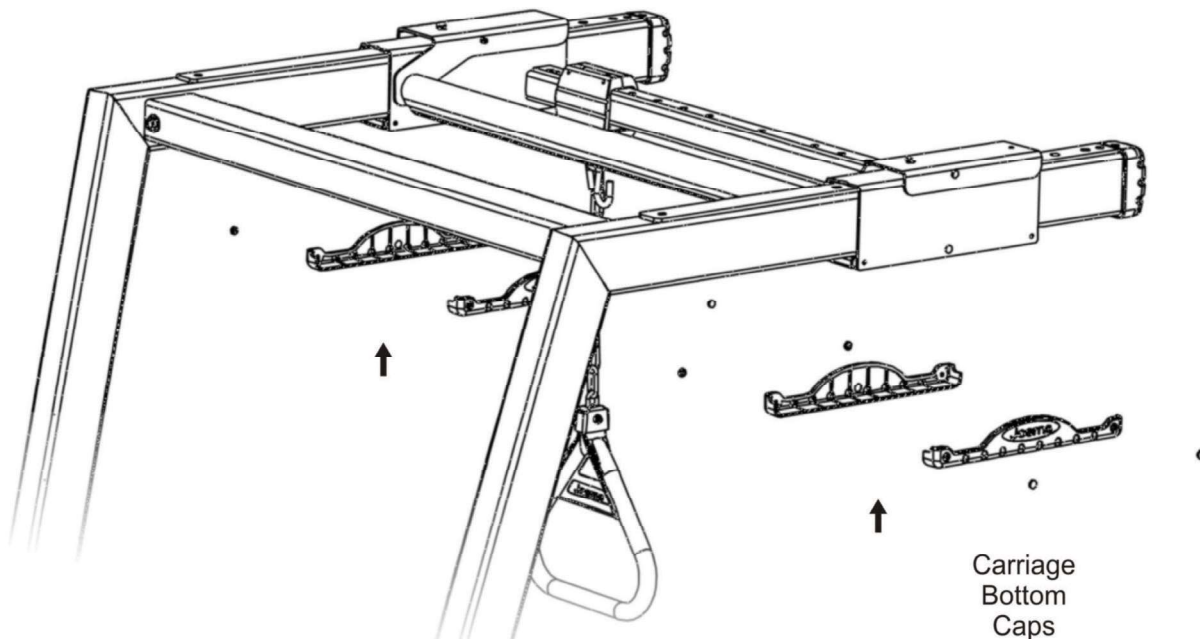

Figure 7
3. Install Carriage Bottom Caps (4) to the Carriage Assembly with (4) fasteners per side. (Figure 7)